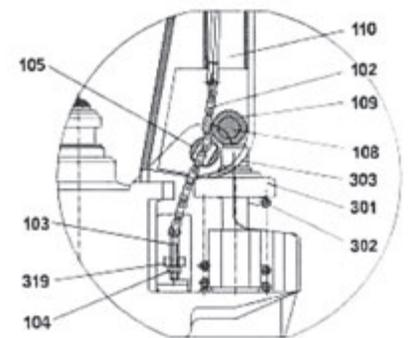

Fig. 3
- 2.2 Set control lever on handle to "**LOWER**" position, then pass adjusting nut (104), adjusting bolt (103), and chain (102) through hole in axle (105) (see Fig. 3).